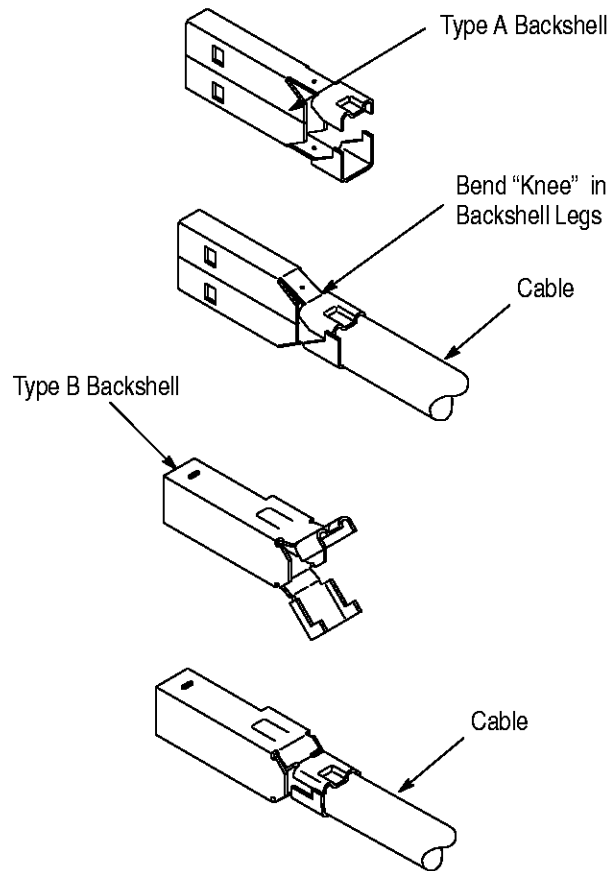

Figure 5
This instruction sheet covers the setup, operation, and maintenance of AMP* Backshell Crimper Assembly 1214695-1. The crimper assembly is used in conjunction with Manual Arbor Frame Assembly 91085-2 or Manual Arbor Frame Assembly 58024-1 to crimp AMP Universal Serial Bus (USB) Type A and B backshells (Figure 5) onto cable with USB connectors.
4. Place backshell on the end of the cable and bend the legs of backshell around the cable. See Figure 5.
NOTE It will be necessary to bend a "knee" in the legs of Type A backshells. Refer to Figure 5.